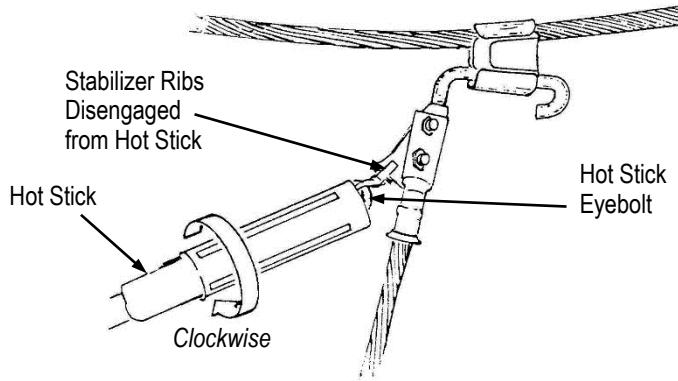

Figure 6
5. Push the disconnect assembly on to the jumper stud and release hot stick enough to disengage the stabilizing ribs. Turn the eyebolt clockwise to apply a torque of 22 Nm [16 ft. lbs]. See Figure 6.